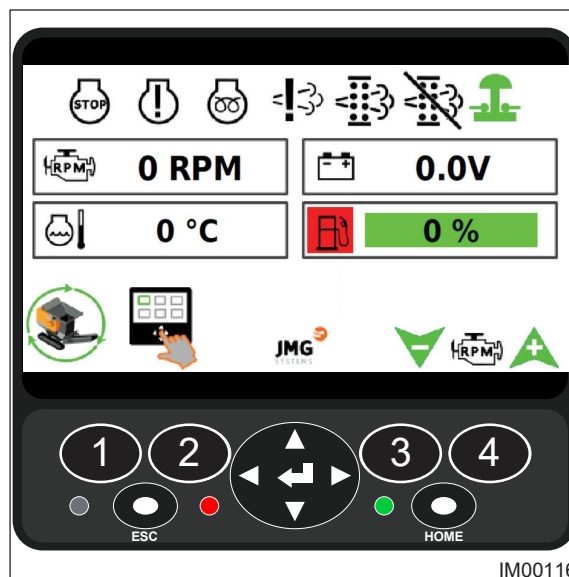
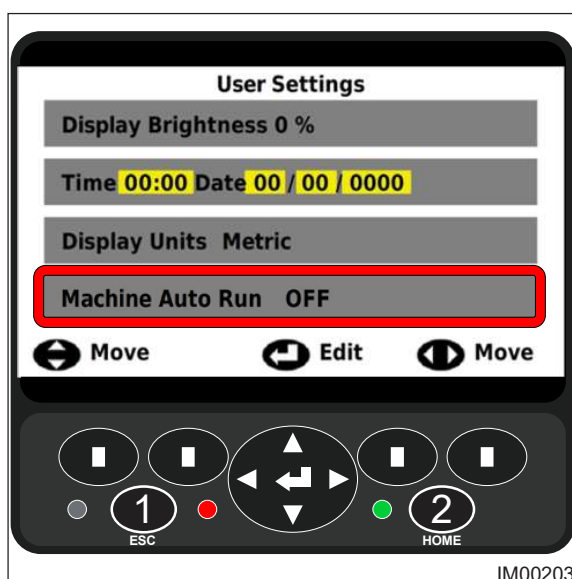

Fig: 8.7 - Home Screen
Fig: 8.10 - User Settings
4. On the Home Screen (Fig: 8.7), press the Menu Selection button (Item 2).
7. On the user settings screen, switch off the Machine Auto Run function (Fig: 8.10).
8. Press the Home button (Item 2, Fig: 8.10) to return to the Home Screen (Fig: 8.7).
9. On the home screen, press the Machine Operating button (Item 1, Fig: 8.7).
15. If the blockage clears, enable the Auto Run feature in the User Settings screen prior to putting the machine back into operation (Fig: 8.10).